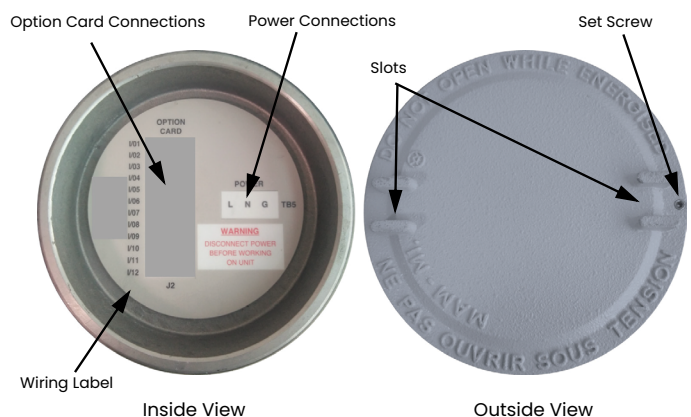
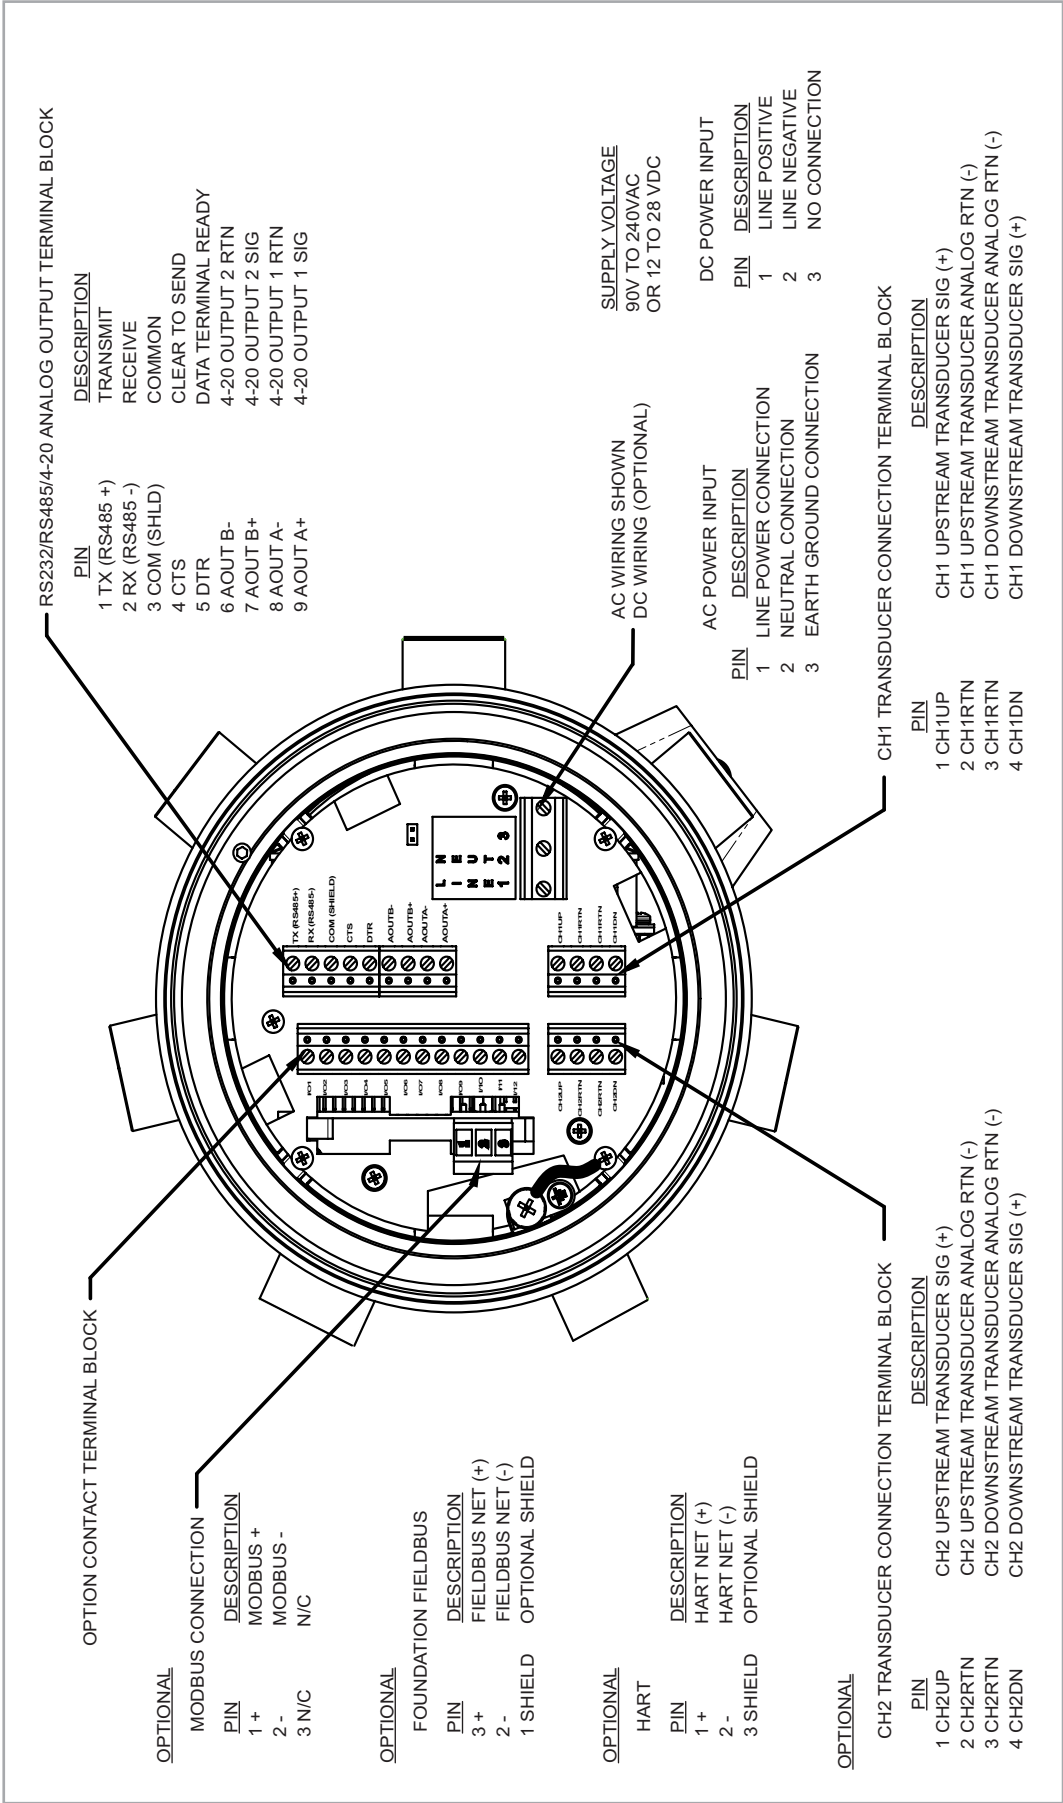

Figure 9: Rear cover with connection labels
Figure 13: Transmitter electronics - wiring diagram (ref. dwg. #702-1846)
To prepare the *PanaFlow ZIG/Z2G Process Gas Flowmeter* for wiring, refer to Figure 9 below, and complete the following steps:
Refer to *Figure 13 on page 14* to locate the correct terminal block, and connect the line power as follows:
3. Refer to Figure 13 on page 14 to locate the correct terminal block, and wire the analog outputs as shown. Secure the cable clamp.
Refer to Figure 13 on page 14 to locate the correct terminal block, and wire the RS485 serial port as follows:
- Locate the 12-pin terminal block in Figure 13 on page 14 and wire the option card as indicated on the label inside the rear cover (see Figure 9 on page 7). Secure the cable clamp.
Before making any connections, complete the steps in "Making the Electrical Connections" on page 10. Then, wire the analog inputs as shown on the label in the rear cover (see Figure 9 on page 7).
The *PanaFlow Z1G/Z2G Process Gas Flowmeter* RTD inputs option card provides two or four direct RTD inputs (designated as A, B, C and D). Each RTD input requires three wires, and should be connected as shown on the label in the rear cover (see *Figure 9 on page 7*).
To connect the HART interface, refer to *Figure 13 on page 14* and proceed as follows:
To connect the Foundation Fieldbus interface, refer to *Figure 13 on page 14* and proceed as follows: